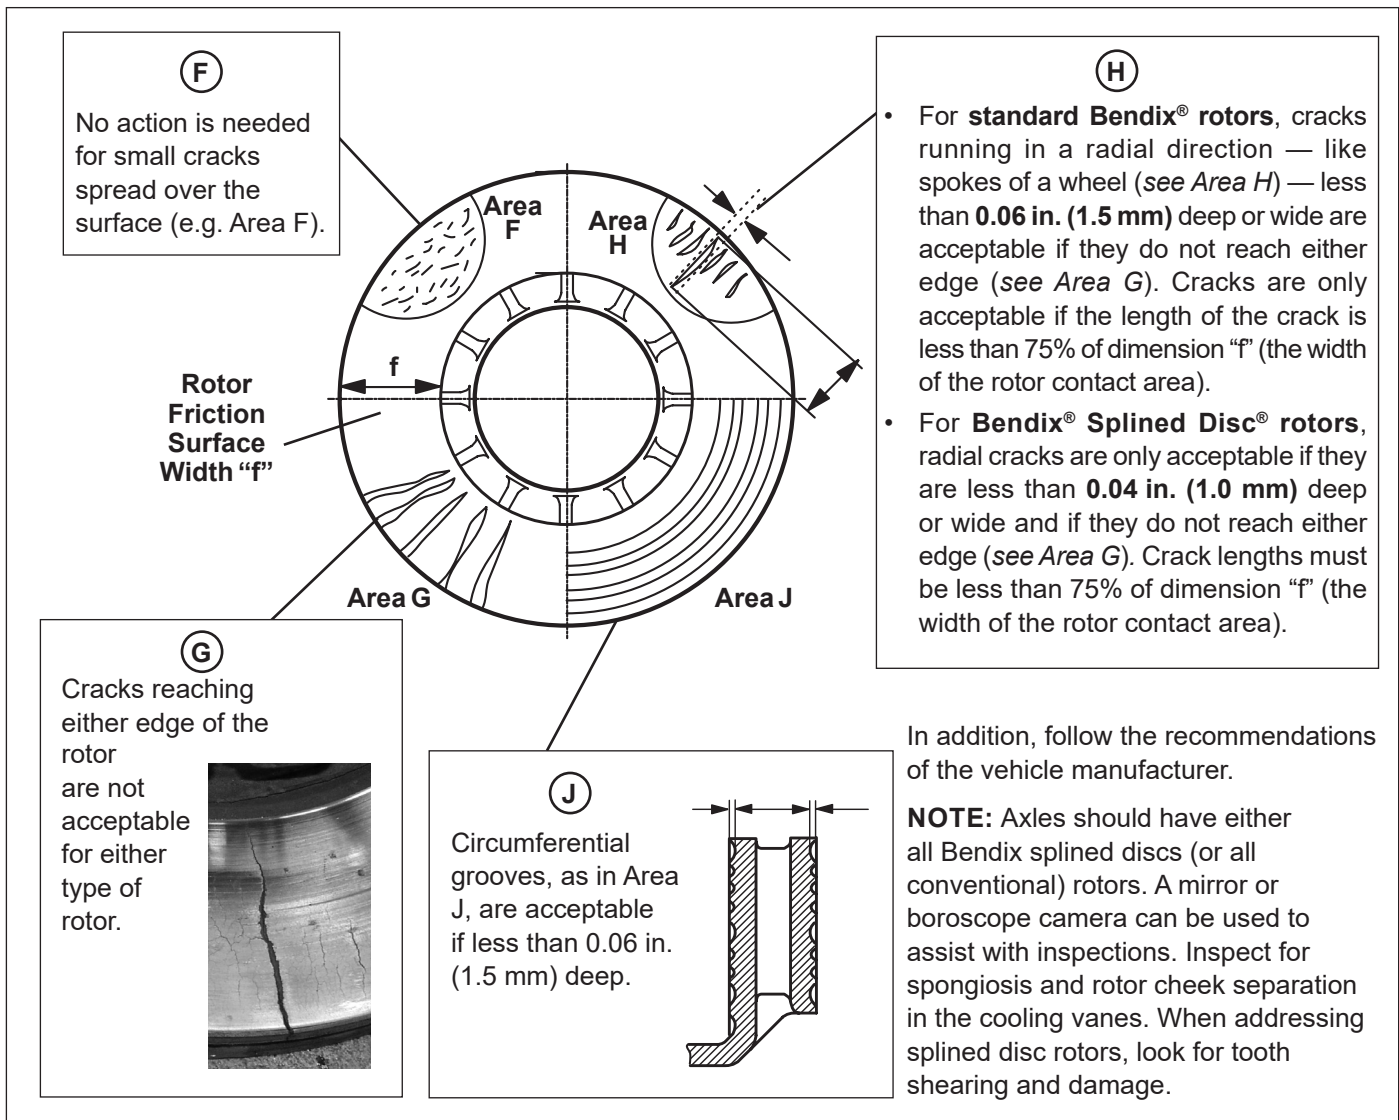

Figure 12 – Examples of Acceptable and Non-acceptable Rotor Cracks and Grooves
See Figure 12. See the various potential rotor conditions that you may find. See the criteria below for whether the rotor needs to be replaced and/or scheduled for a full inspection.
- 3.4.2 Inspect the rotor surface. See *Figure 12*. The type of rotor, and also the size, depth, and direction of the imperfections, must all be considered.